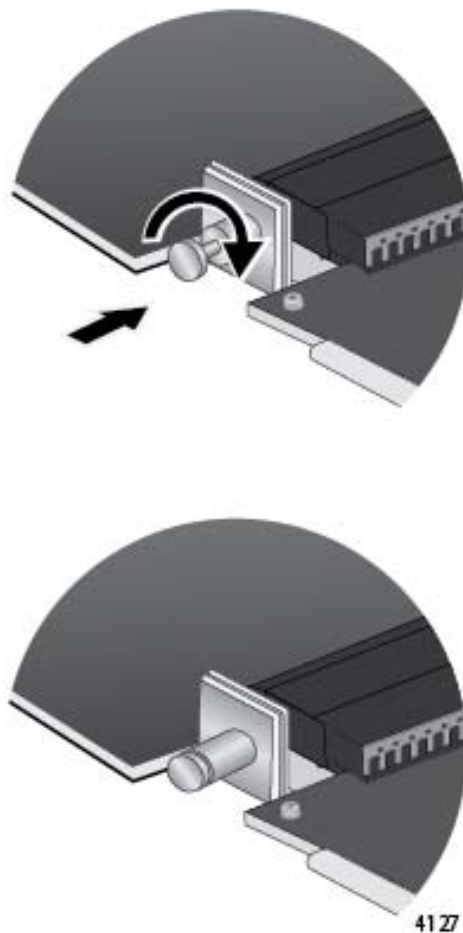

Figure 85. Releasing the Retaining Pin
11. Turn the retaining pin on the side of the line card one quarter turn to release it. Refer to Figure 85 on page 154.